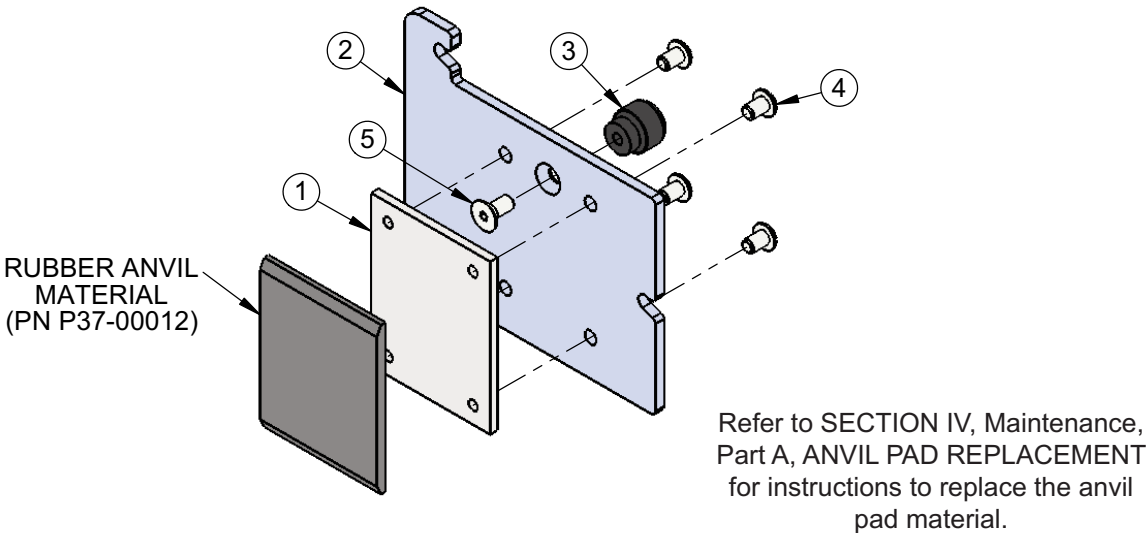

Figure 7.3
For example to order an Anvil Mount Plate, Figure 7.3, page 7.5, identifies the Plate as item 2. The parts list describes item 2 as 08-006441 R PLATE - ANVIL MOUNT, or 08-006441 L PLATE - ANVIL MOUNT. If the machine nameplate is marked as an 883R, Model AJ-NRP R, then the printer is a right-hand printer and requires Part No 08-006441 R PLATE - ANVIL MOUNT.